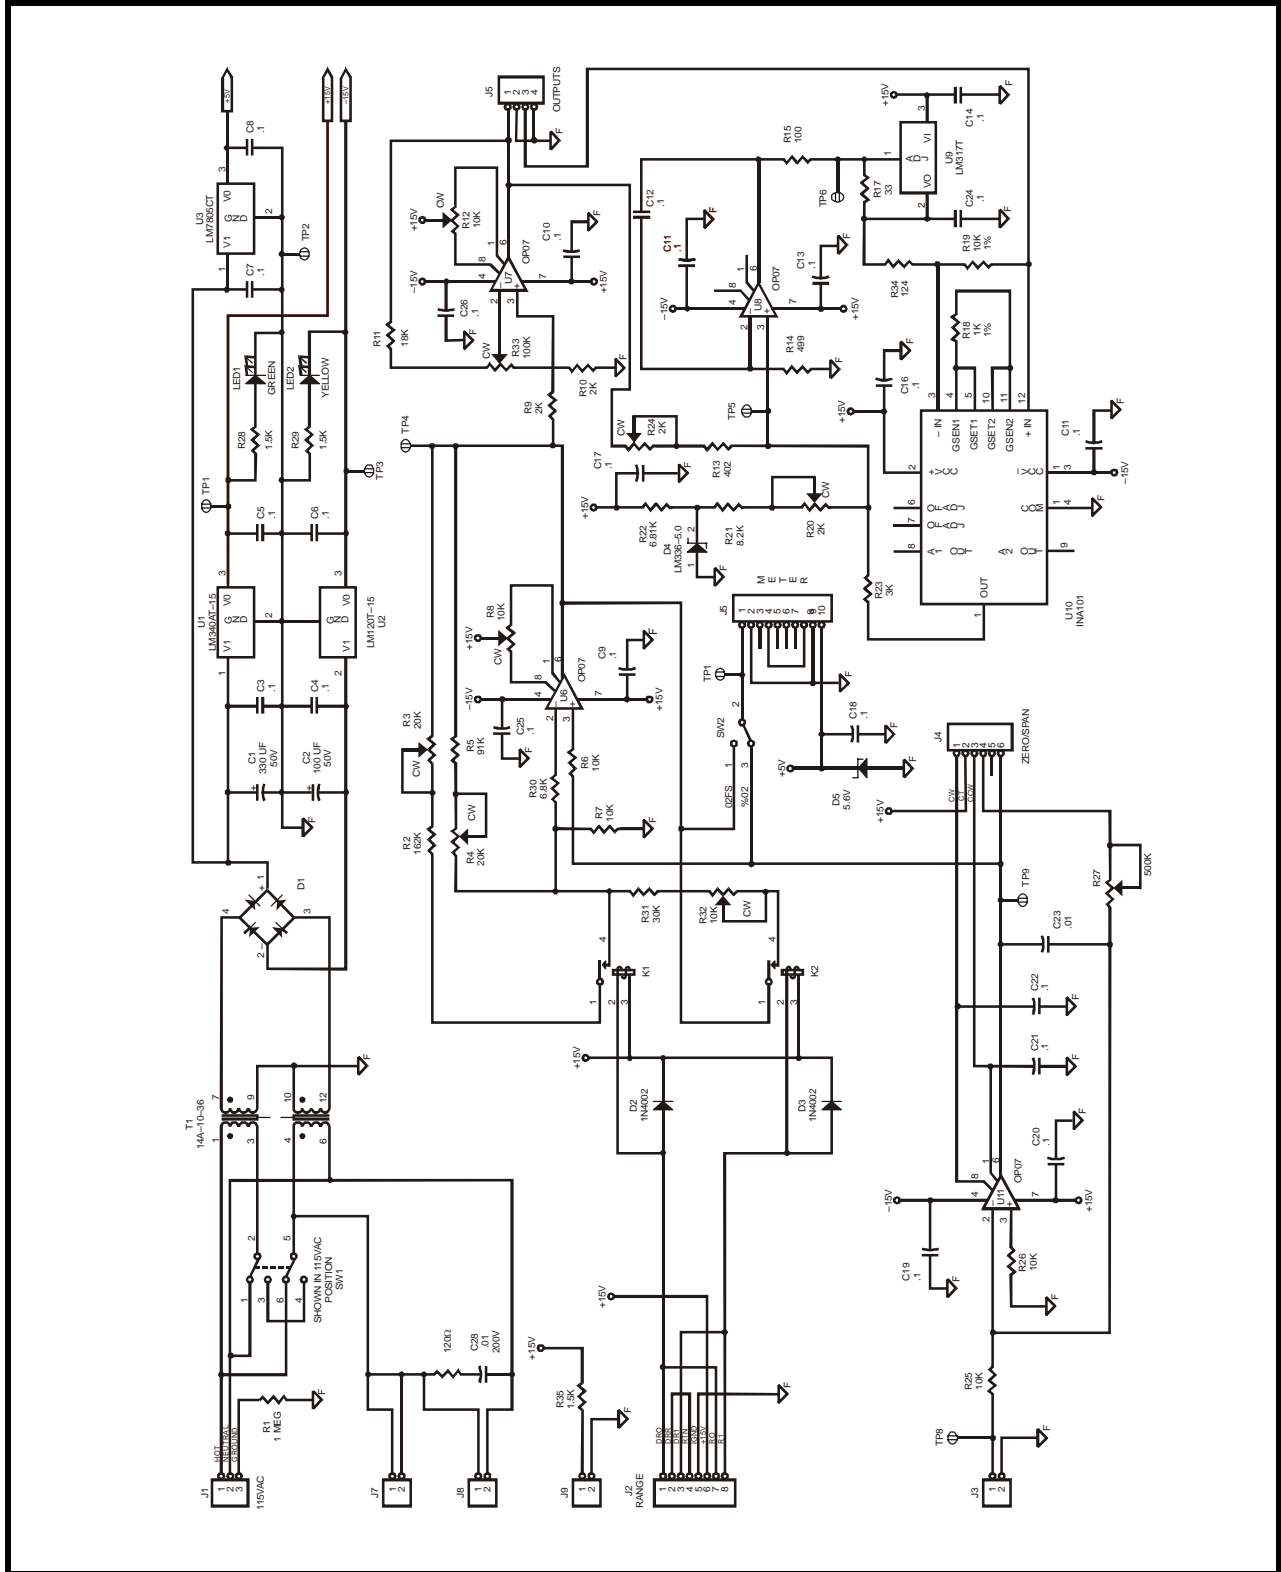

Figure 5-2 100F O₂ electrical schematic
- Figure 5-2 100F O2 electrical schematic